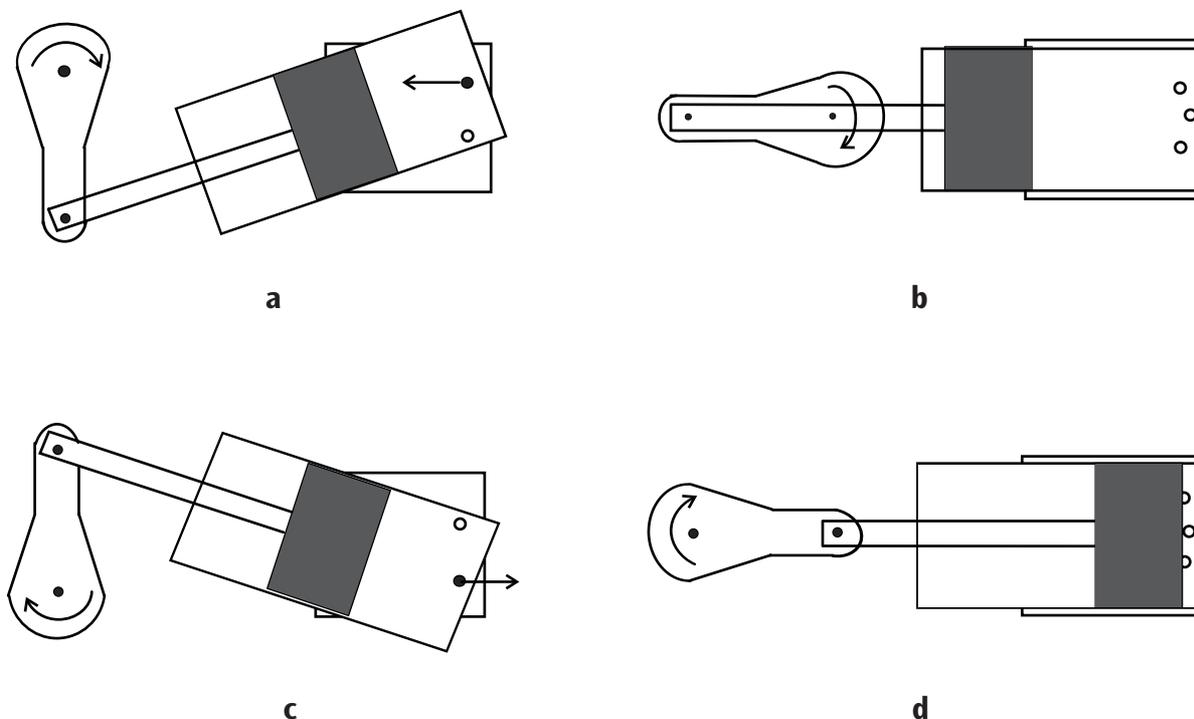

Fig. 1: Work cycle of an oscillating steam engine
Unlike a slide-valve steam-engine, an oscillating steam engine has a cylinder that rotates on a central shaft causing steam inlet and outlet ducts to open and close. Water in the boiler begins to boil, and thus steam is generated. The steam flows via the steam inlet hose ⑫ into the frame then through the steam inlet hole. As soon the opening of the cylinder is fed with fresh steam, steam flows into the cylinder and displaces the piston (Fig. 1, a). When the piston reaches its lowest point, the steam ducts are closed. This slack point is passed thanks to the inertia of a flywheel (Fig 1, b). In the next phase, the piston moves back, opens the steam outlet and pushes out the steam
(Fig. 1, c). The steam flows out via the exhaust steam hose ② and the exhaust steam pipe ⑯. The condensed water that accumulates drips out via the condensation hose ① into the condensation beaker ⑰.
When the piston has reached the dead point at the top, both of the steam ducts are closed again. The flywheel drags the engine past this top slack point, after which steam is once again fed in and the procedure repeats from the start (Fig. 1, d).